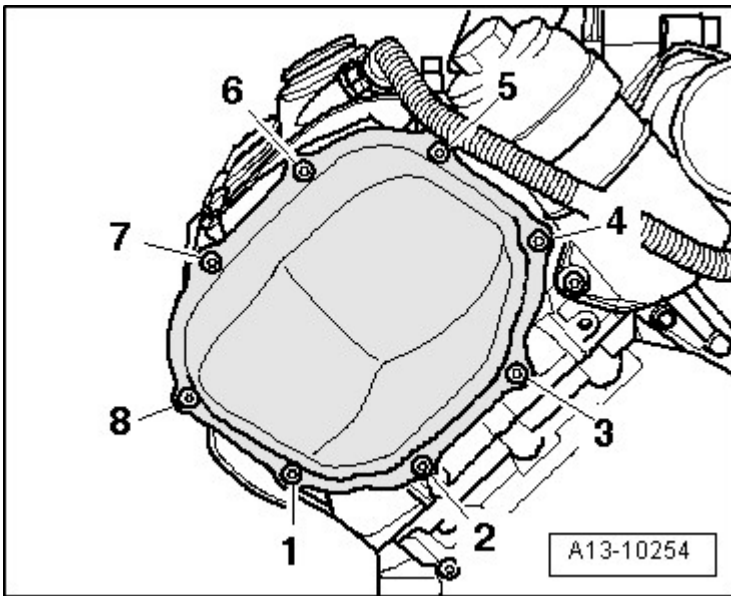

Fig. 12: Identifying Sequence Of Left Timing Chain Cover Bolts
- Tightening specification and sequence, refer to **Fig. 12**